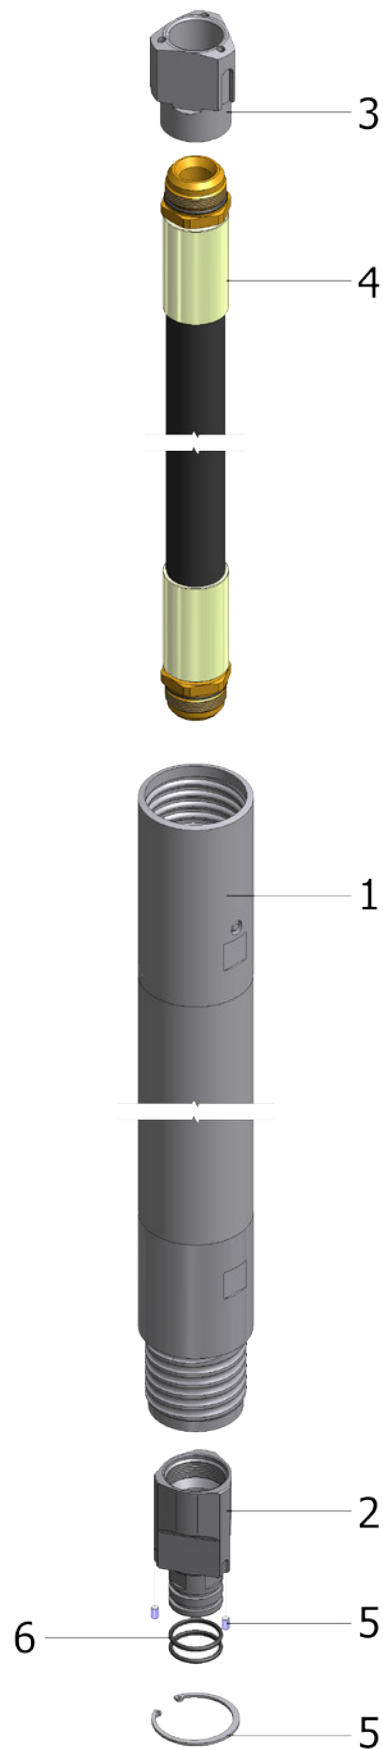

FIG. 3.9
D.90 C2 ROD (INNER RUBBER HOSE): J-8C214100 (L=1000); J-8C214150 (L=1500); J-8C214200 (L=2000); J-8C214300 (L=3000) (REF. FIG. 3.9)